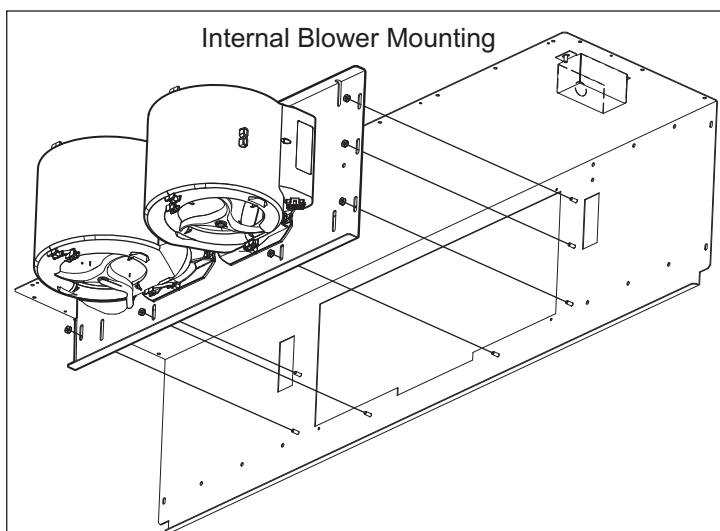

Figure 5
5. Assemble the junction box removed in step 4 onto the horizontal discharge back panel. If an internal blower will be used with the hood, mount the blower assembly to the horizontal discharge back panel using the provided #10-24 KEPS nuts and the blower installation instructions (See figure 5).